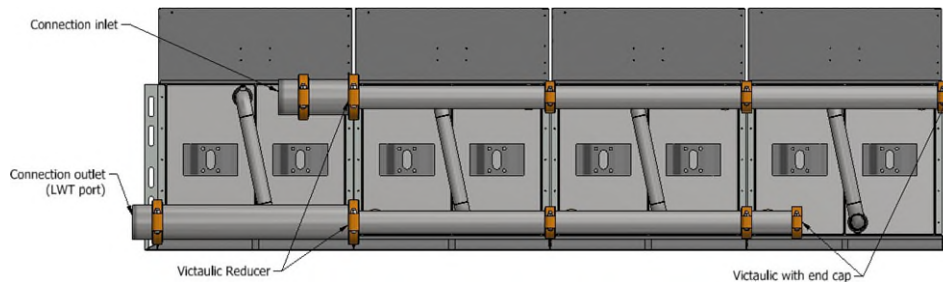

Figure 21. Manifold Layout
Some jobs will require VITAULIC reducers to change diameters, see **Figure 21**.
3. Check the drawing in your submittal package for the quantity and size of the pipe and location. Always start installing pipes from the side furthest from the intended system connection. The connection could be on Face A or B. The manifold could also be installed on Face C or D, see **Figure 21**. Refer to your Submittal and Submittal Drawings for details.